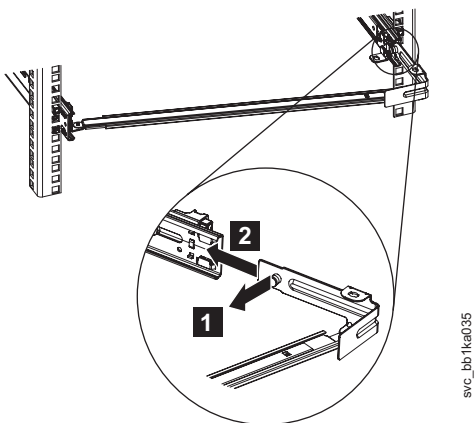

Figure 18. Attaching the free end of the SAN Volume Controller 2145-CF8 support arm
3. To attach the other side of the support arm to the backside of the slide rail, push the blue latch on the cable-support-arm stop bracket, as shown by **1** in Figure 18, to slide the bracket **2** into the slide rail.